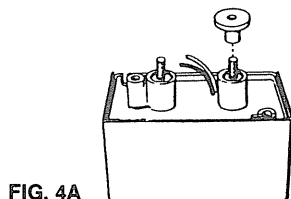

FIG. 4A
- H. Connect proper electrode terminals to ignitor as shown. Refer to figures 4A thru 4C.